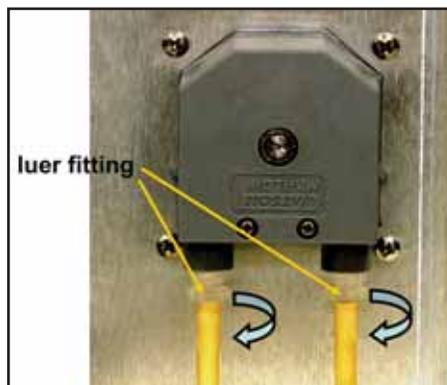

FIGURE 10-5.
3. Luer fittings connect the reagent tubing to the pump. Disconnect the tubing by turning the fitting in the direction of the arrows shown in Figure 10-5.
3. Luer fittings connect the sample tubing to the pump. Disconnect the tubing by turning the fitting in the direction of the arrows shown in Figure 10-5.
2. The reagent and sample tubing is connected to the pump tubing with luer fittings. See Figure 10-5. Disconnect the fittings from the pump by turning the fitting in the direction of the arrow.